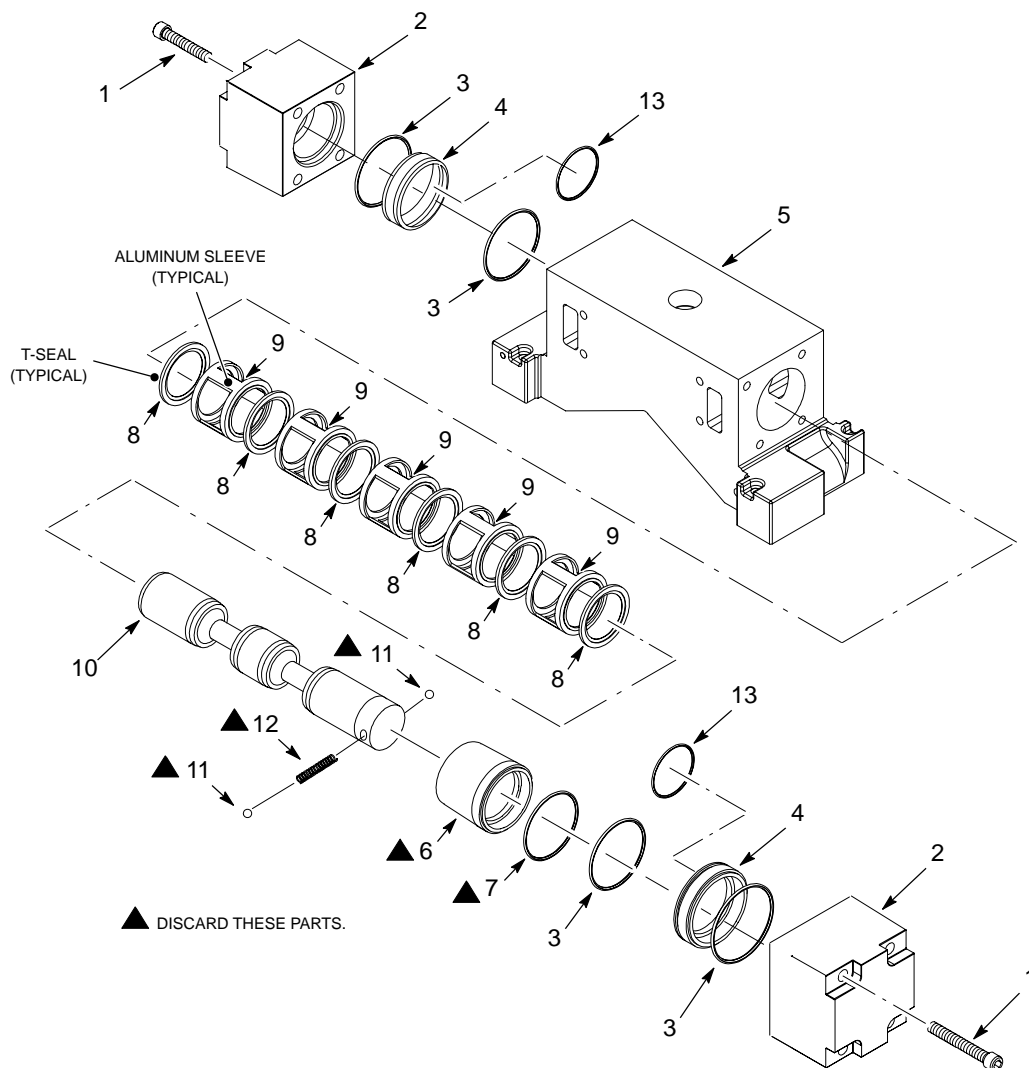

Figure 1 Air Valve Disassembly
2. See Figure 1. Remove the socket-head screws (1) and end caps (2) from the air valve body (5).
3. Remove the spool (10) from the valve body (5). Remove the brass retainers (4), T-seals (8), and aluminum sleeves (9) from the spool. Discard the T-seals.
- detent sleeve (6)
- detent sleeve O-ring (7)
- detents (11)
- detent spring (12)